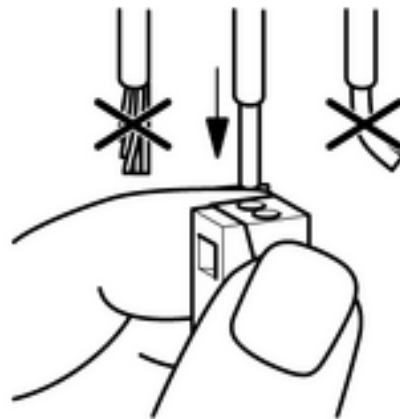

Figure 7: Connection of the single-stranded cable
- Push the single-stranded cable into the round opening on the installation side up to the stop (figure 7).